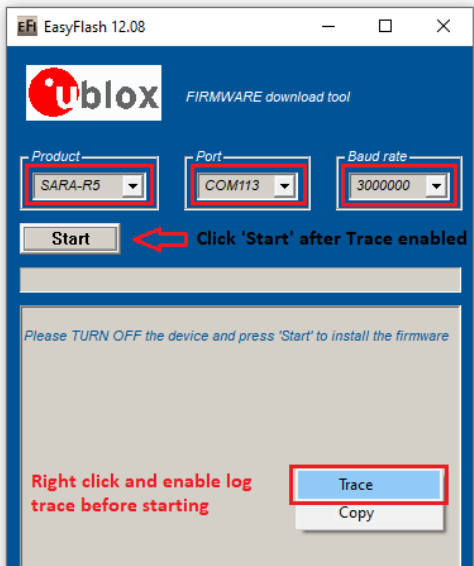

Figure 6: Setting up EasyFlash and start the FW installation
5. Select in pull down (Figure 6)
6. Right click and enable trace (Figure 6). This will create a log per FW update attempt. It is useful if something goes wrong and it is needed to report the issue.
7. Click "Start" button (Figure 6).